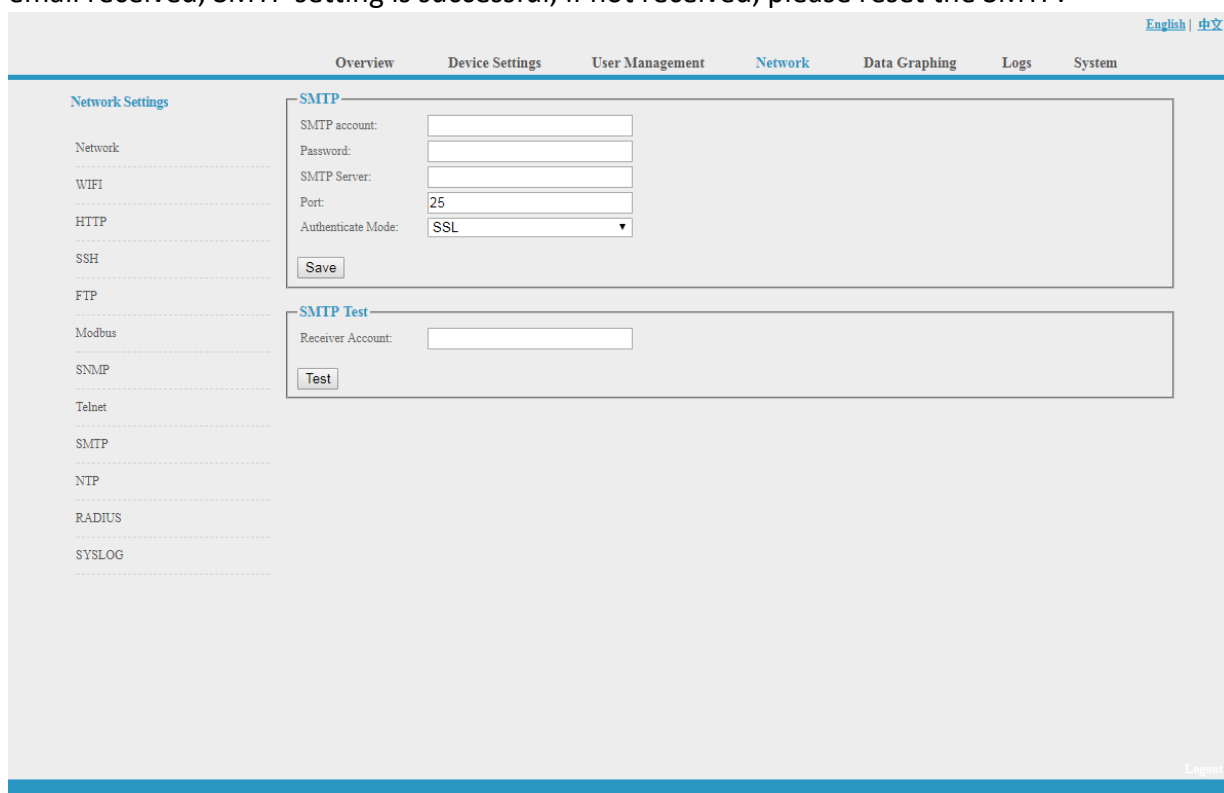

Figure 1-13
I. SMTP: Click SMTP from the network setting tap to enter the SMTP setting as figure 1-13.